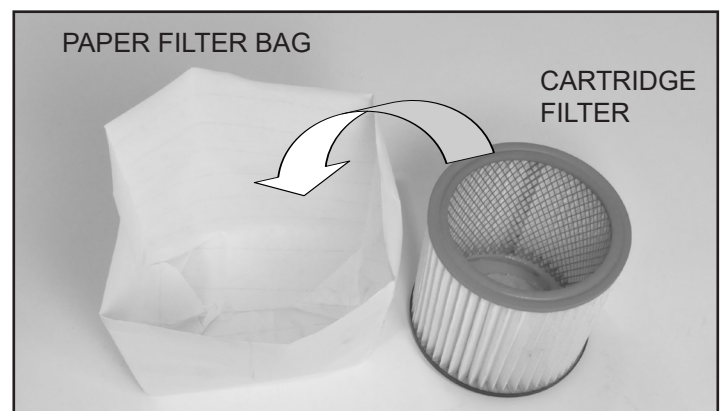

FIG. 1
1. Place the cartridge filter with open end facing up, inside of a paper filter bag. FIG. 1.